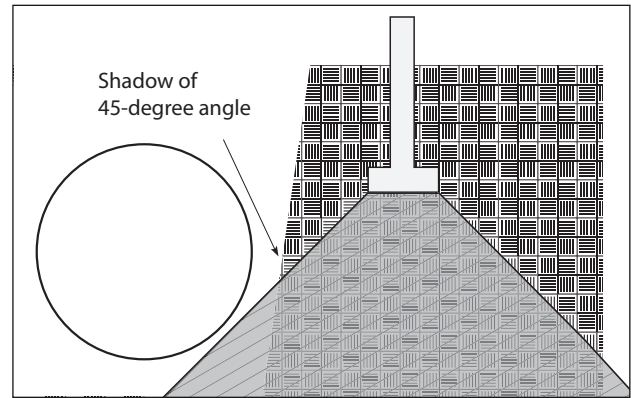

FIGURE 6-6
6.4.2. The location of a tank can be affected by the location of nearby structures. When selecting a tank site, care must be taken to avoid undermining the foundations of existing structures or new buildings to be constructed. (See FIGURE 6-6.)
- 6.4.3.4. The tank must not fall within the "shadow" of the 45-degree-angle line drawn from the foundation's footing. (See FIGURE 6-6.)